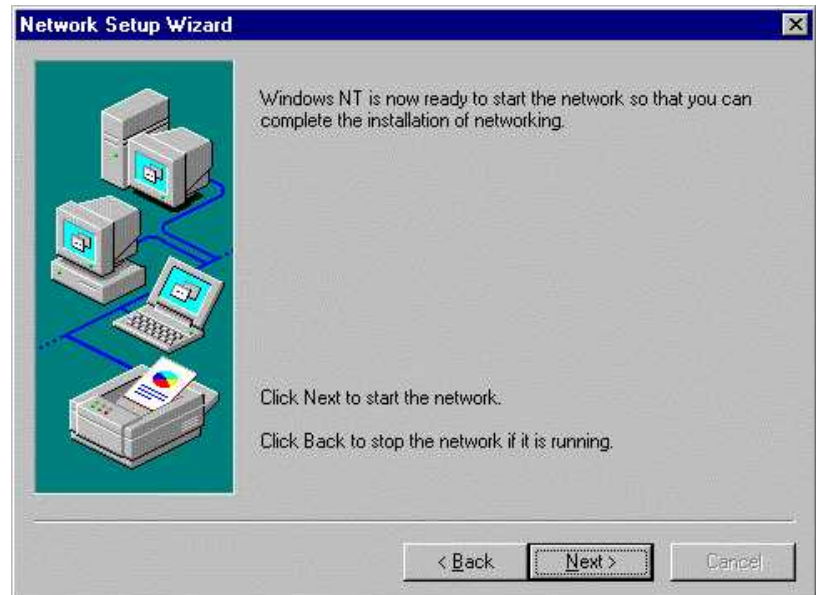

Fig. 8-26
- Select "Next" in the dialog box. Windows then attempts to start the network (Fig. 8-26).